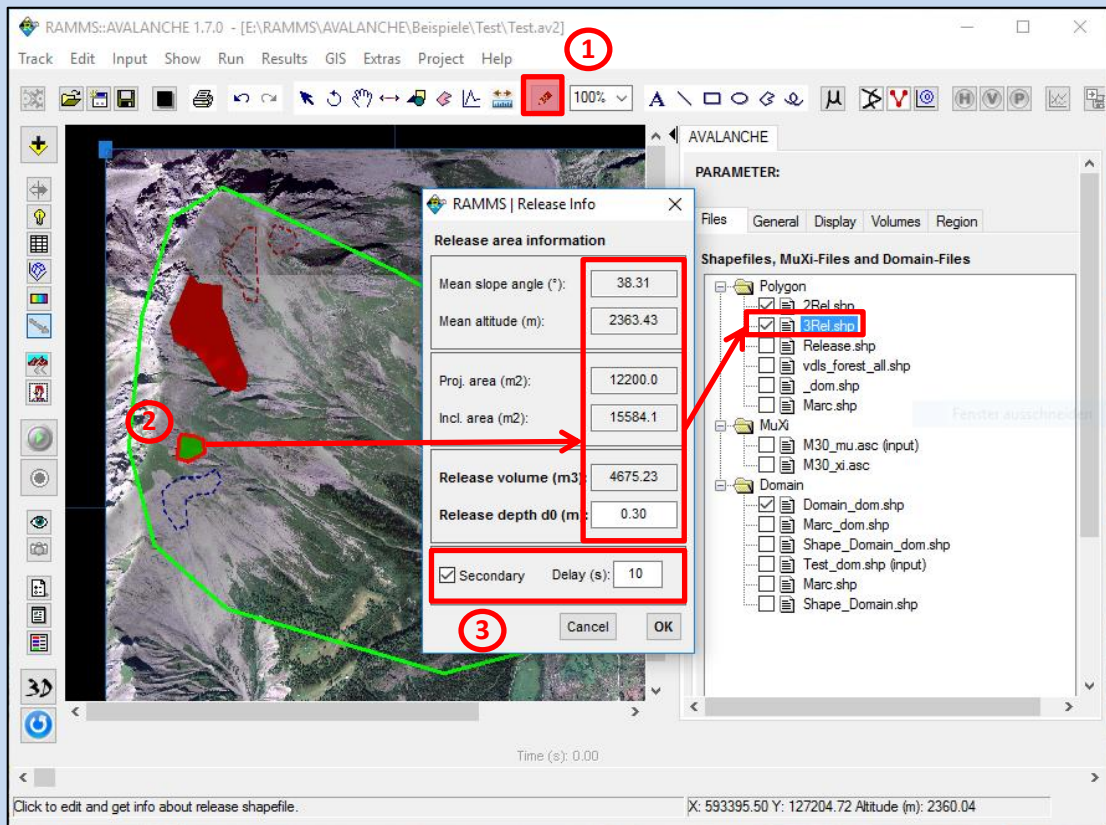

Figure 3-41: About
Therefore, we again click on  (1) and choose the middle polygon of *3Rel.shp* (2), see Figure 3-41 below. We then specify a release depth of 0.3m and a delay of 10s (3).